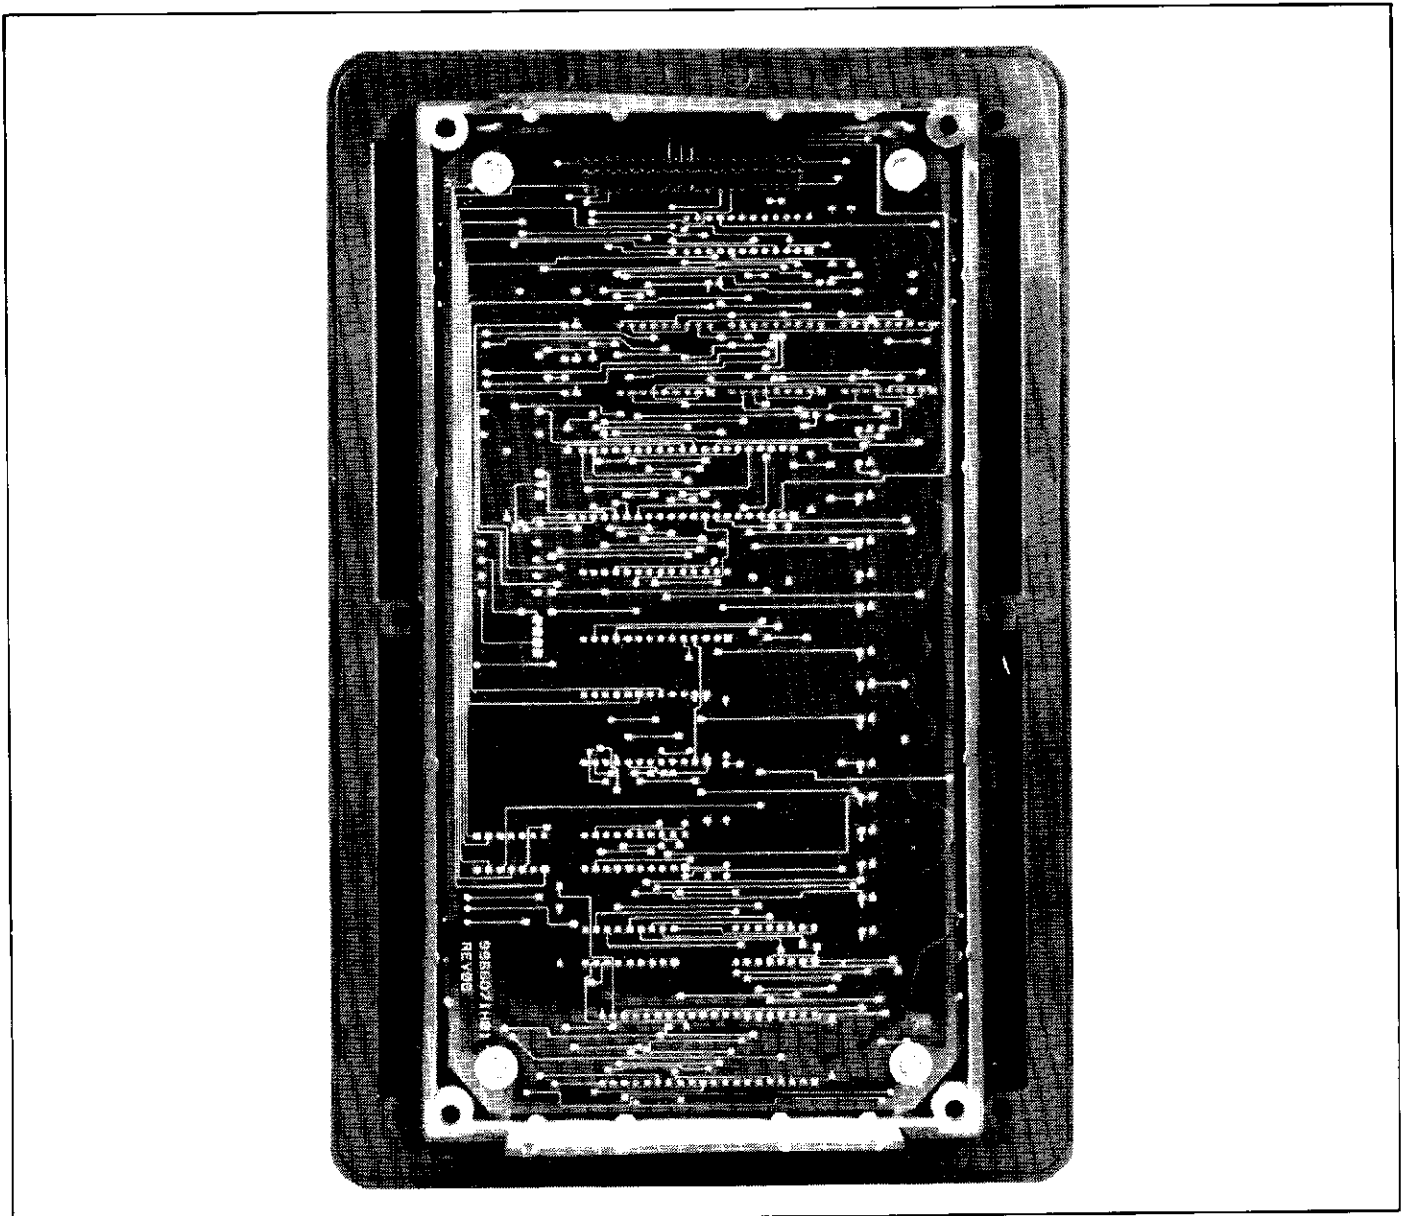

Fig. 3 IQ Data Plus II with Cover and Rear Board Removed
14. Remove the four screws, washers, and spacers from the corners of the bottom circuit board (See Figure 3).
26. Replace the four spacers, washers and screws in the corners of the circuit board. Do not over-tighten screws (See Figure 3).